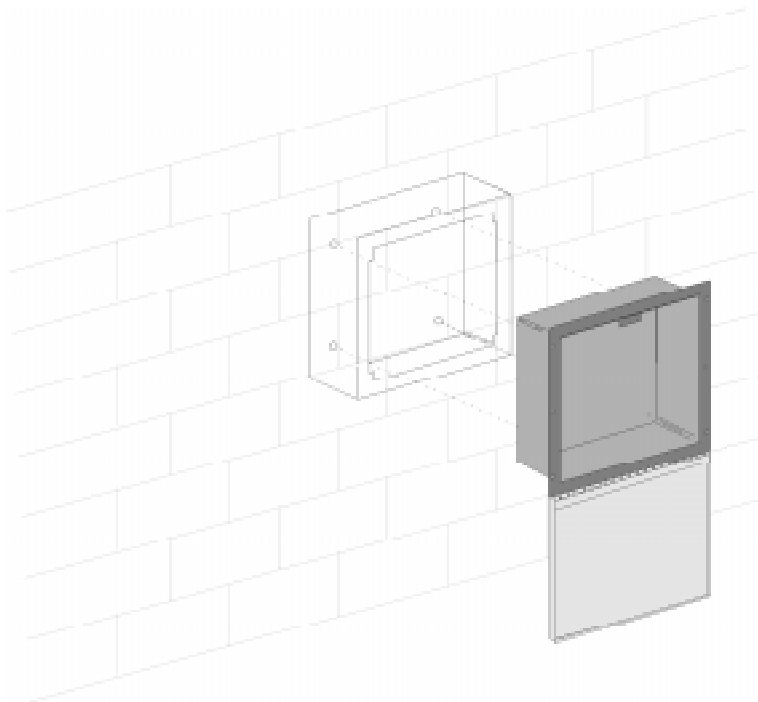

Figure 3-6: Surface Mount
3. Mount to the wall through the 4 holes in the back of the box (see Figure 3-6).